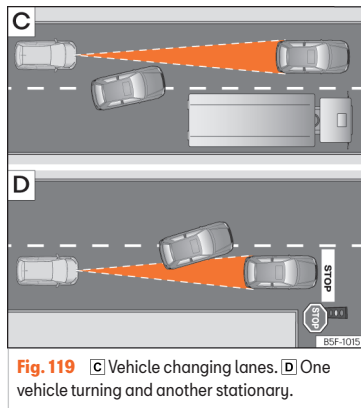

Fig. 119 **C** Vehicle changing lanes. **D** One vehicle turning and another stationary.
- Vehicles that move into your lane, a short distance from your vehicle >>> **Fig. 119 C**.
The ACC does not react to stationary vehicles. If, for example, a vehicle detected by the ACC turns or moves over and there is a stationary vehicle in front of it, the ACC will not react to the second vehicle >>> Fig. 119 .